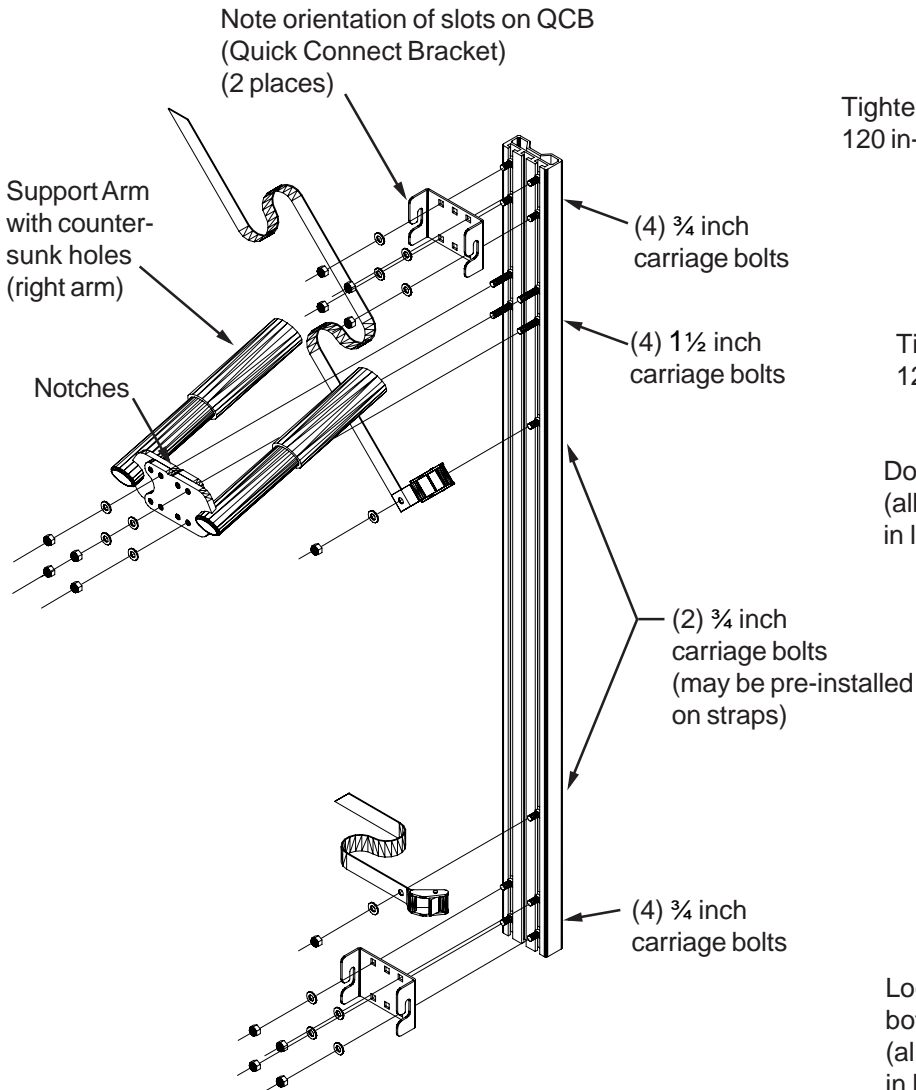

Figure 2A
2.1. Slide carriage bolts into tracks on back of the beam and assemble as shown in Fig 2A. The bolts for the straps are pre-installed in the straps' mounting hole.